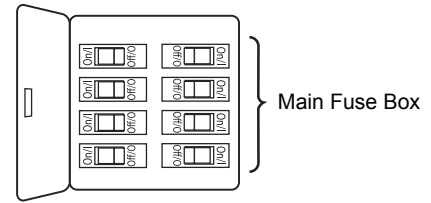

Figure 1
To avoid possible electrical shock, be sure electricity is turned off at the main fuse box before wiring. (Figure 1)
1. Screw in two threaded rods into the hanger bracket. (Figure 1)